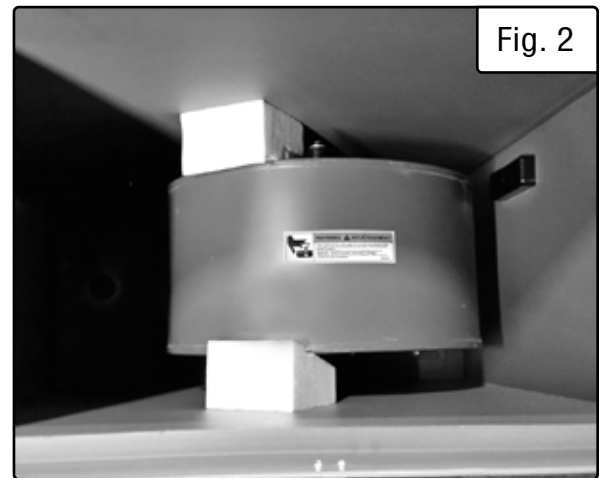

Fig. 2
IMPORTANT! Foam blocks (Fig. 2) are installed around the motor to protect it from shipping damage. They must be removed before operation.
3. Remove the foam blocks (Fig. 2).